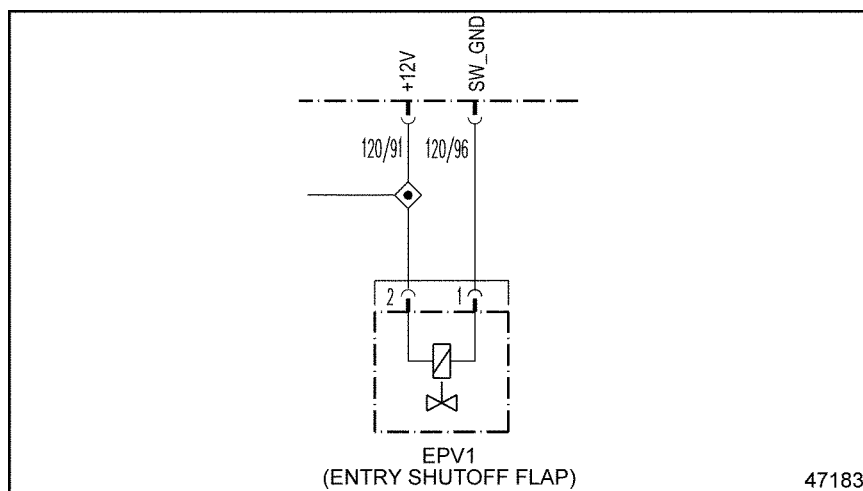

Figure 34-2 EPV1 (Entry Shutoff Flap)
- [a] If 716/4 is active with 716/4, repair the short to ground between pin 91 of the 120-pin MCM connector and pin 2 of the EPV1 connector for the Entry Shutoff Flap and pin 21 of the 31-pin connector. See Figure 34-2. Refer to section 34.2.1.1.